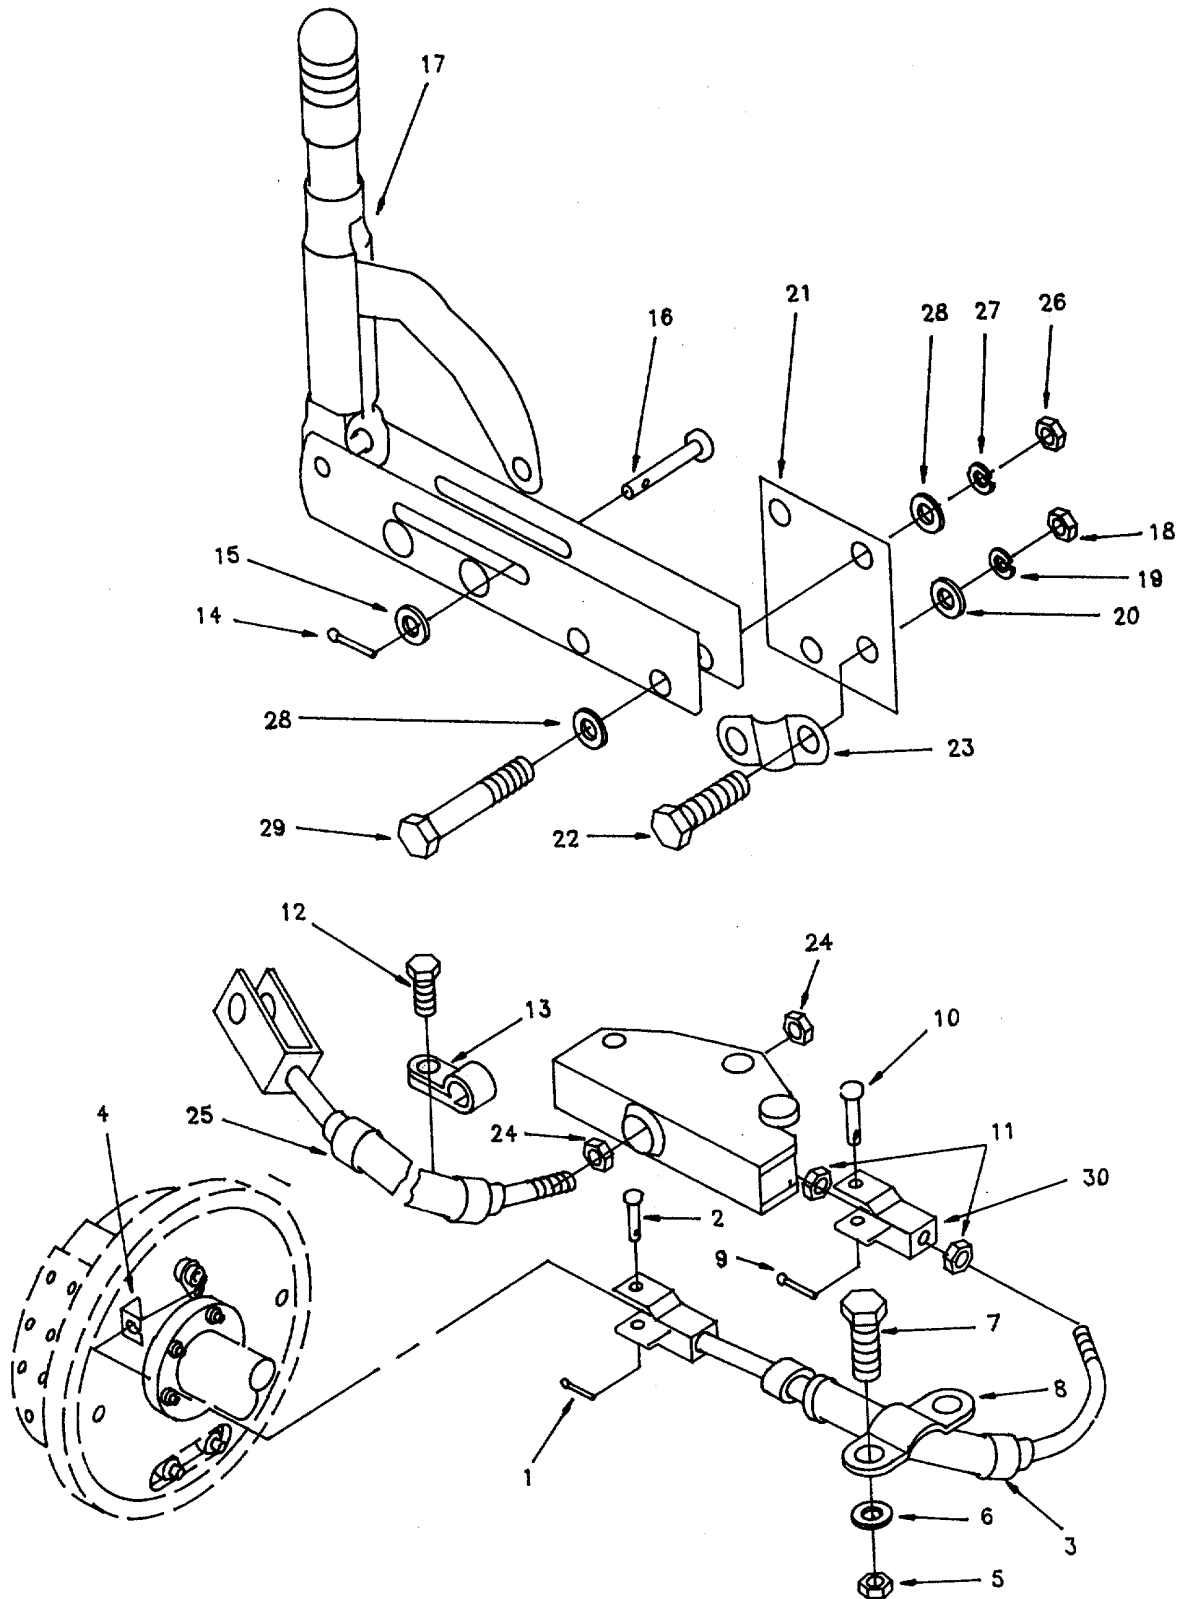

Figure 4-31. Parking Brake Assembly.
- (1) Remove cotter pin (1, Figure 4-31) and pin (2) from cable bracket.
- (2) Remove parking brake cable (3) from cable holder (4) on vehicular wheel hub.
- (3) Remove plain hexagon nut (5) and flat washer (6).
- (4) Remove cap screw (7), cable bracket (8), and brake cable (3).
- (5) Remove cotter pin (9) and pin (10) from brake cable (3).
- (6) Remove plain hexagon nuts (11) from brake cables (3) and remove bracket (30).
- (7) Remove cap screw (12) from cable clamp (13).
- (8) Remove cotter pin (14), flat washer (15) and pin (16) from handle lever (17).
- (9) Remove plain hexagon nuts (18), lock washers (19), and flat washers (20) from plate (21).
- (10) Remove cap screw (22) and cable bracket (23).
- (11) Remove plain hexagon nuts (24).